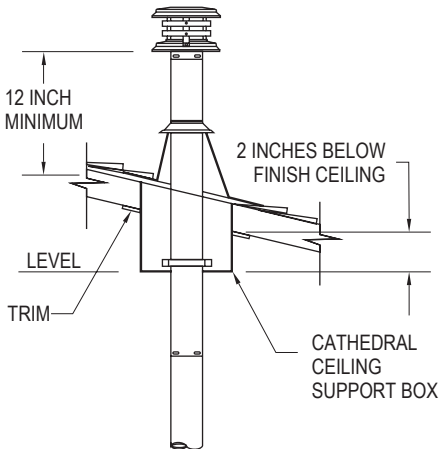

Figure 22
9. Connect the necessary amount of pipe sections to reach the stove at a point where the Cap will be at least 12-inches above the roof (**Figure 22**).